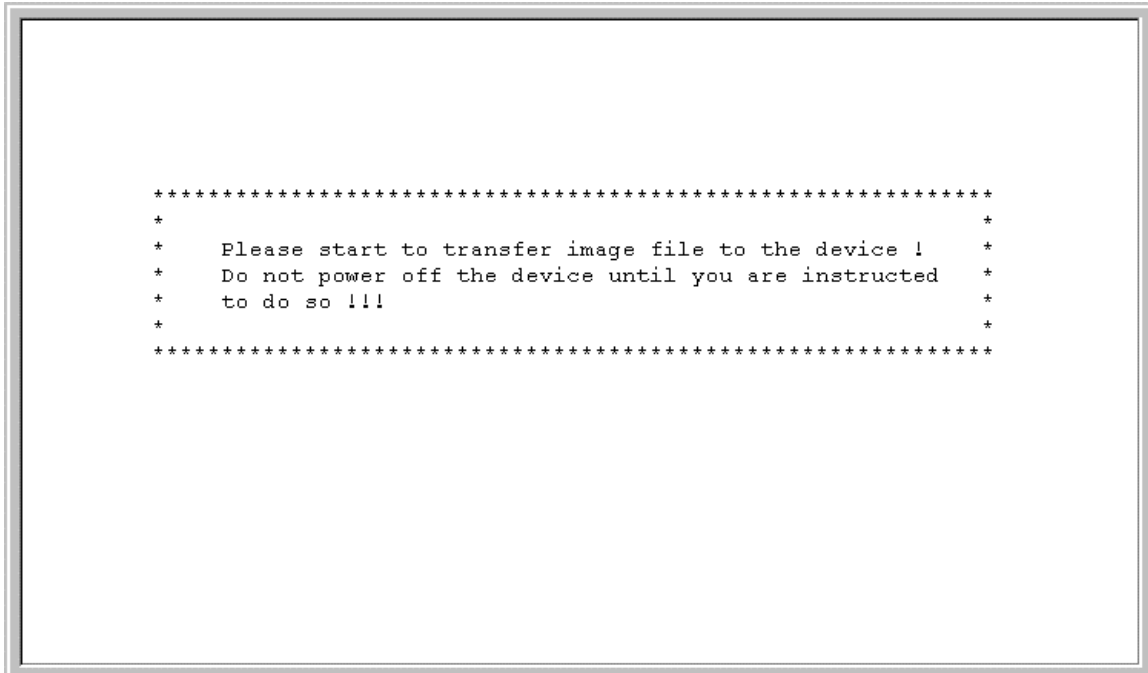

Figure 15: Software Update Transfer
4. You will see the panel displayed in Figure 15. Select Transfer on the HyperTerminal menu bar at the top of the screen.